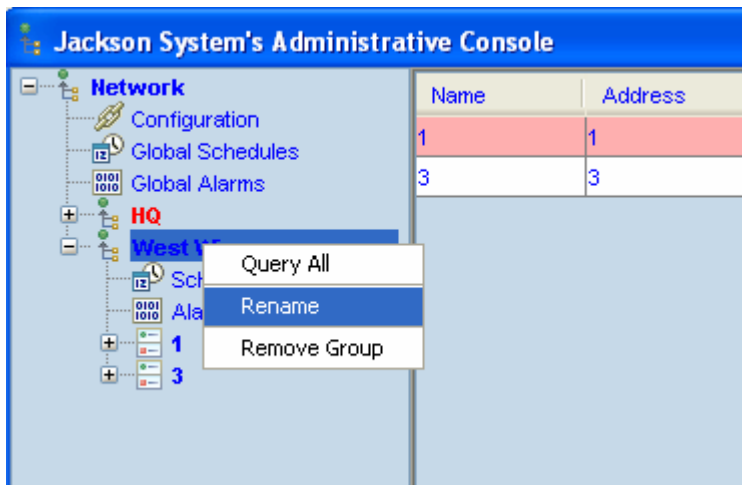

Figure 32 – Renaming a Group
- ii. Rename the group by right mouse clicking on the newly created group (refer to Figure 32)